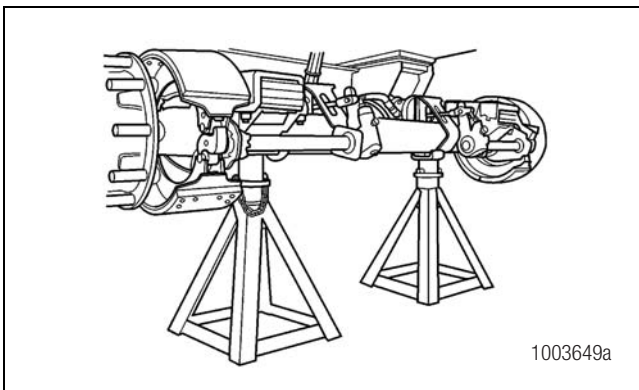

Figure 5.10
1. Raise the trailer until the tires are off the ground. Place safety stands under the trailer frame or under each trailer axle spring seat. Do not support the vehicle only by jacks. Figure 5.10.